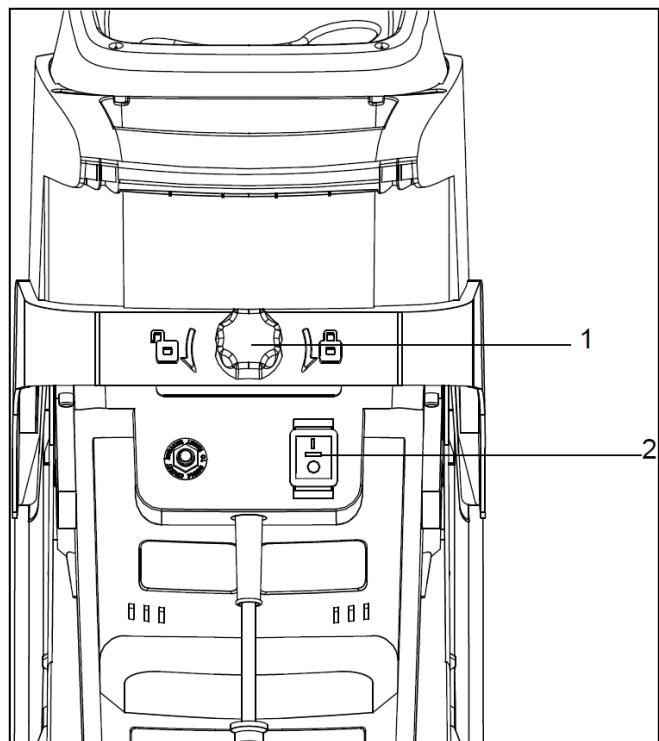
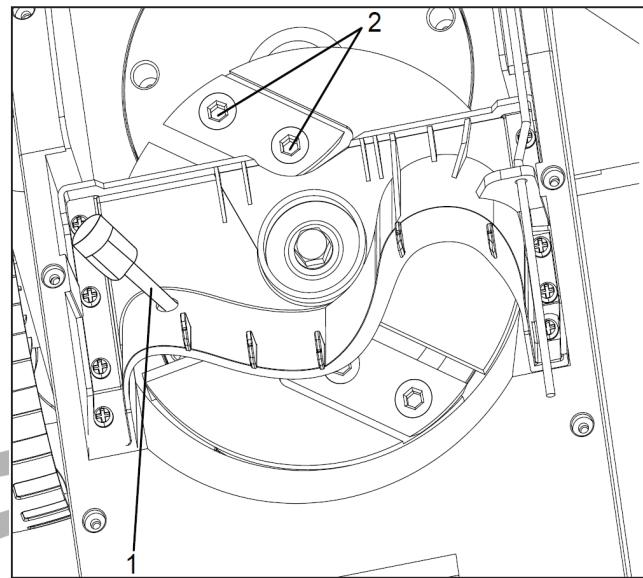

Fig. 4
Fig. 5
2. Check to make sure that the hopper is empty. Close the hopper tightly by turning the hopper lock knob (Fig 4 - 1) clockwise. The shredder will not run if the hopper is open or not fully closed.
4. Connect the shredder to a power source and turn the power switch to the ON position (Fig. 4 - 2).
- 6. Slowly insert the material to be shredded into the hopper through the feeding chute (Fig. 5). Keep hold of branches at a safe distance from the feeding chute until they are automatically drawn into the shredder.
1. To restart the shredder, first press the reset button (Fig. 4 - 1). Then turn the power switch to the on position.
2. Fully unscrew the hopper locking knob (Fig. 4 - 1) until it springs out. Open the hopper to access the cutting head (Fig. 5).
4. Rotate the cutting head so that it appears as shown in Fig. 5. To prevent the cutting head from rotating during blade change, insert a rod through the blade guard hole (Fig. 5 - 1) and the slot in the cutting head.
6. Each blade is secured with two hex bolts (Fig. 5 - 2). Remove the blade from the inner edge of the blade guard where both hex bolts can be accessed.